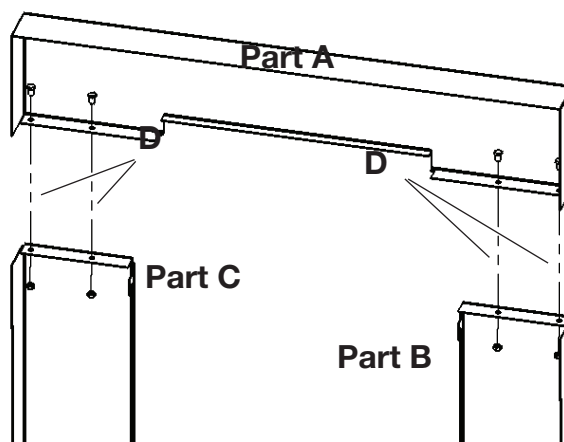

Figure 15: TRNO20 SURROUND ASSEMBLY.AI
2. Locate the double screw terminal wiring block at the top of the board (See Figure 15), loosen the two screws on the block. Insert one of the wires from the thermostat into one of the slots and tighten the screw. Repeat this process for the other thermostat wire.